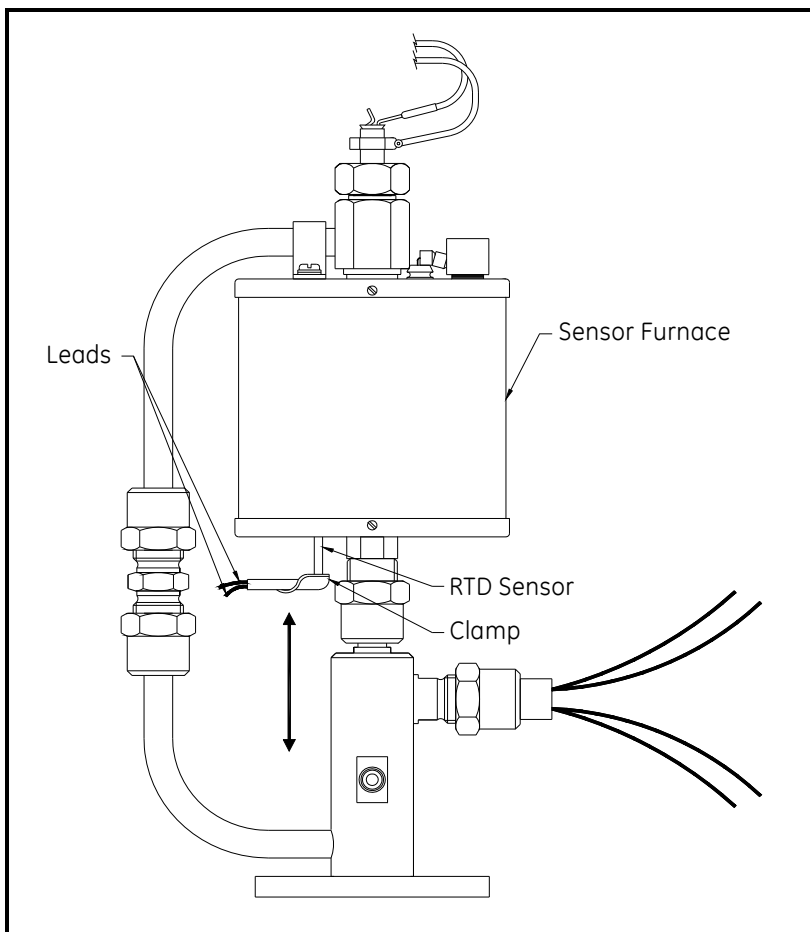

Figure 37: Temperature Sensor Location
5. Extract the temperature sensor from the bottom of the sensor furnace. See Figure 37, which shows a partially removed RTD type temperature sensor (the TC type temperature sensor is mounted and removed in a similar manner).